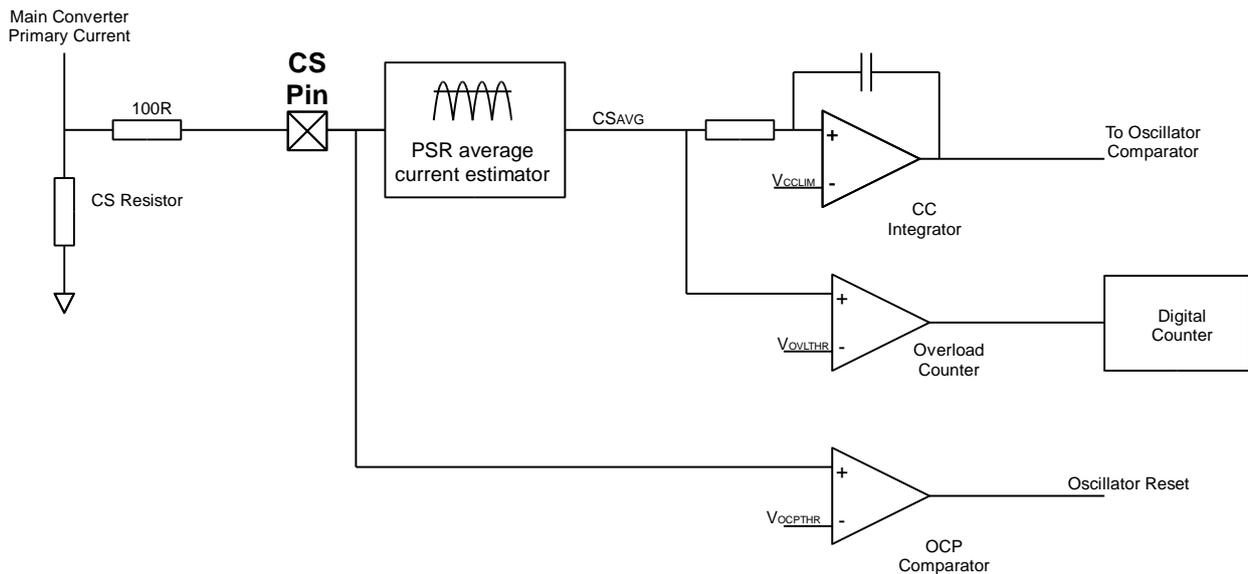

Figure 7: RED1401 Current protection and control circuits
Figure 7 shows the three current protection methods used in the converter:
Shown in figure 7 the signal from the CS pin is divided into two different paths. The bottom path provides peak instantaneous over-current protection (OCP) while the PSR Average Current estimation block provides the current limit (CC) and the average current overload (OVL) information. The voltage on the CS pin is an AC signal biased around GND. Inside the PSR block this signal is processed to provide a voltage proportional to the average converter output current.
The CC limiting circuit is shown in Figure 7. The CC operation is defined by an internally compensated control loop. This provides a system response time of approximately 1ms in a typical SMPS application. The constant current RMS limit, V_{CCCLIM} is pre-set to 140mV, referred to the CS pin. This corresponds to 140% of nominal load.